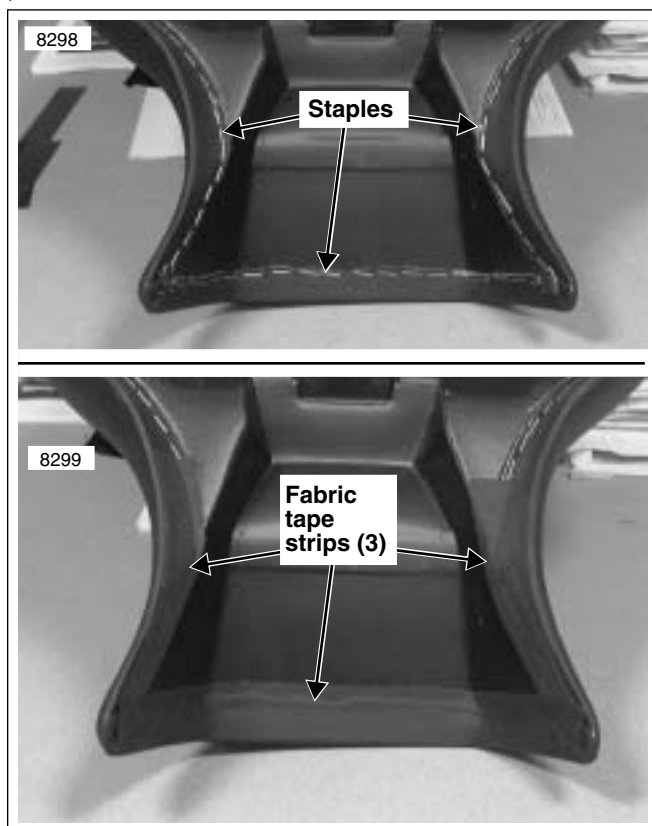

Figure 2. Applying Fabric Tape to Underside of Seat
3. See Figure 2. Remove adhesive backing and apply three fabric tape strips over staples on front portion of seat.